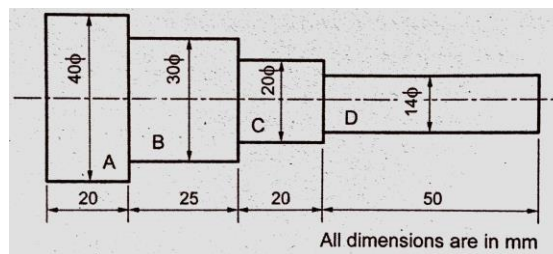

Fig 3
5. Calculate the net weight and gross weight for the component shown in figure 3. Density of material used is 7.86 gm/cc. Also calculate: (i) Length of 14 mm dia bar required to forge one component, (ii) Cost of forging/piece if: Material cost = Rs. 80 per kg; Labor cost = Rs. 15 per piece. Overheads=150 percent of labour cost.